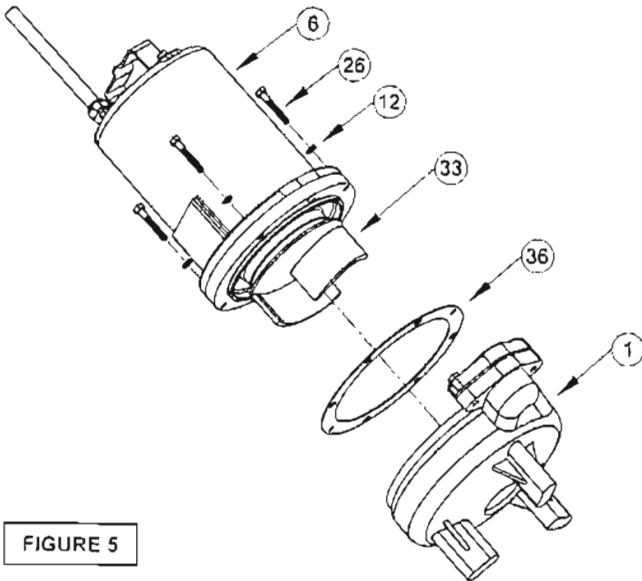

FIGURE 5
To clean out volute (1) or replace impeller (33), disconnect power, remove hex bolts (26), and lockwashers (12), vertically lift motor and seal plate assembly from volute (1) see Figure 5. Clean out body if necessary. Clean and examine impeller (33), for pitting or wear and replace if required, inspect gasket (36) and replace if cut or damaged. If the impeller (33) needs replacing, place a flat screwdriver in the slot of the end of the shaft to hold the shaft stationary while unscrewing the impeller (33).